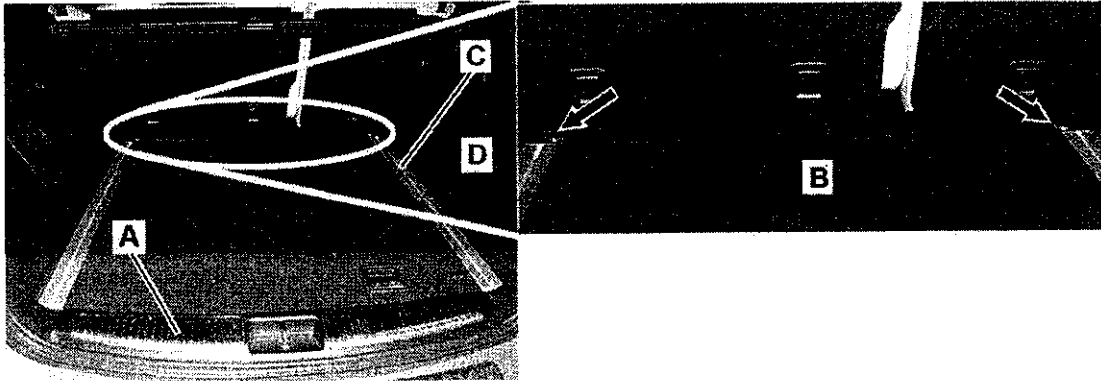

Figure 1
1. Remove cargo tie down rings (arrows, Figure 1) and trim panel then remove cargo compartment cover (B).
2. Remove tail gate sill panel (A, Figure 1), refer to WIS: AR68.30-P-4100GZA.
4. Remove right cargo compartment side panel (D, Figure 1), refer to WIS: AR68.30-P-4800GZ.
On vehicles with cargo compartment package (code 942), remove right cargo rail (C, Figure 1) first.
- When reinstalling right rear cargo compartment side panel (D, Figure 1) ensure that harness for rear power supply outlet is reconnected to outlet.